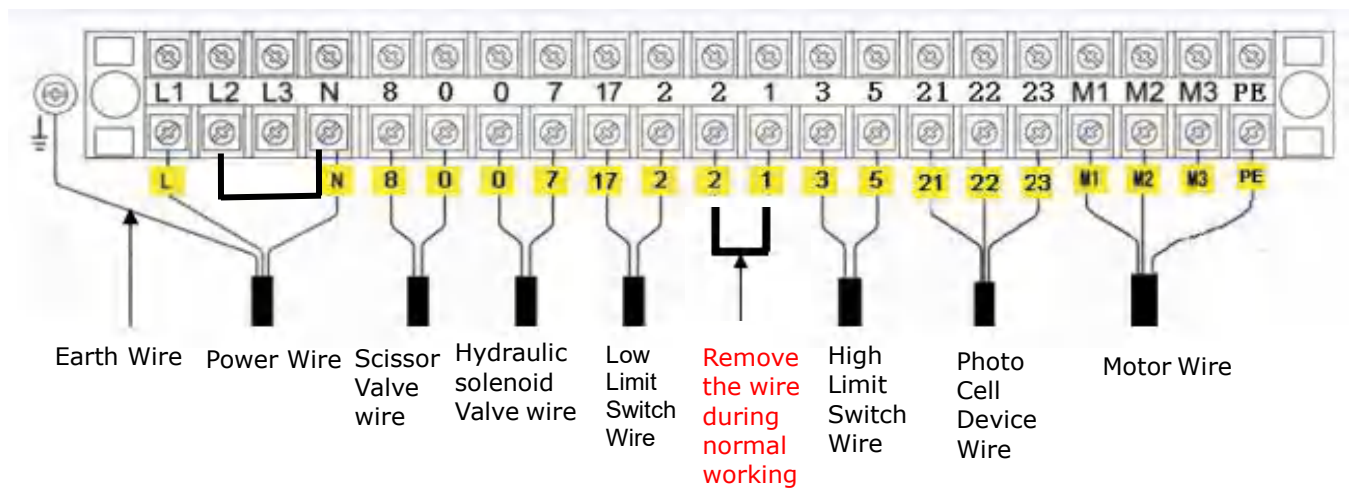

Fig. 11
1.1. Connect the power wire and limit switch wire according to the Wiring diagram (See Fig. 11).